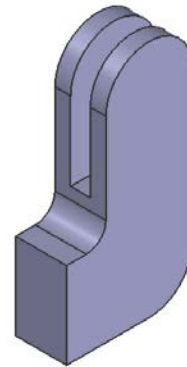

Figure 7-105 Model after creating the cut feature
- Create the cut feature, refer to Figure 7-105.
- Use the **Subtract** boolean option from the **Extrude** dialog box to create the cut feature in the base feature, refer to Figure 7-105. For dimensions of